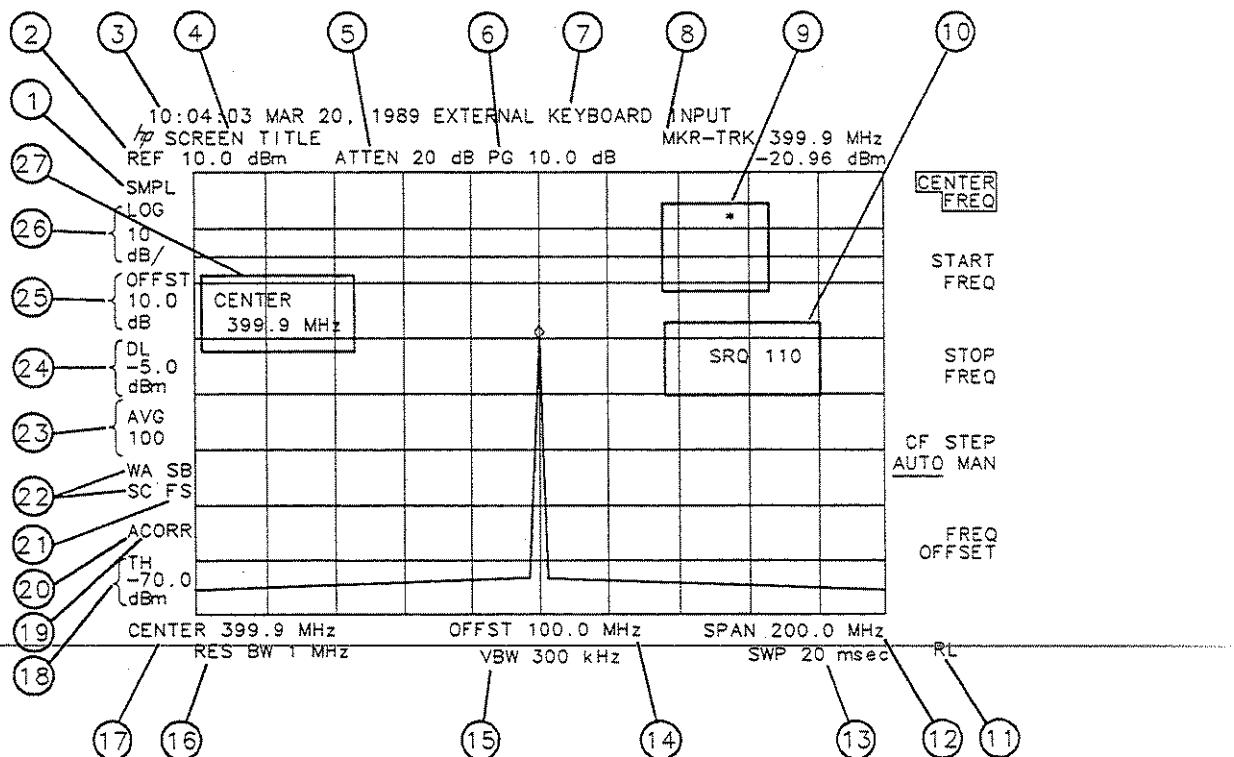

Figure 1-4. Screen Annotation
Figure 1-4 shows an example of the annotation that may appear on a spectrum analyzer screen. The screen annotation is referenced by numbers and is listed in Table 1-2. The function key column indicates which front-panel key or softkey activates the function related to the screen annotation. Refer to Chapter 3 for more information on a specific function key.
In Figure 1-4, item 21 refers to the trigger and sweep modes of the analyzer. The first letter ("F") indicates the analyzer is in free-run trigger mode. The second letter ("S") indicates the analyzer is in single-sweep mode.
Item 22 refers to the trace modes of the analyzer. The first letter ("W") indicates that the analyzer is in clear-write mode. The second letter is "A," representing trace A. The trace B trace mode is "SB", indicating trace B ("B") is in the store-blank mode ("S"). The trace mode annotation for trace C is displayed under the trace mode annotation of trace A. In Figure 1-4, the trace C trace mode is "SC", indicating trace C ("C") is in the store blank mode ("S").